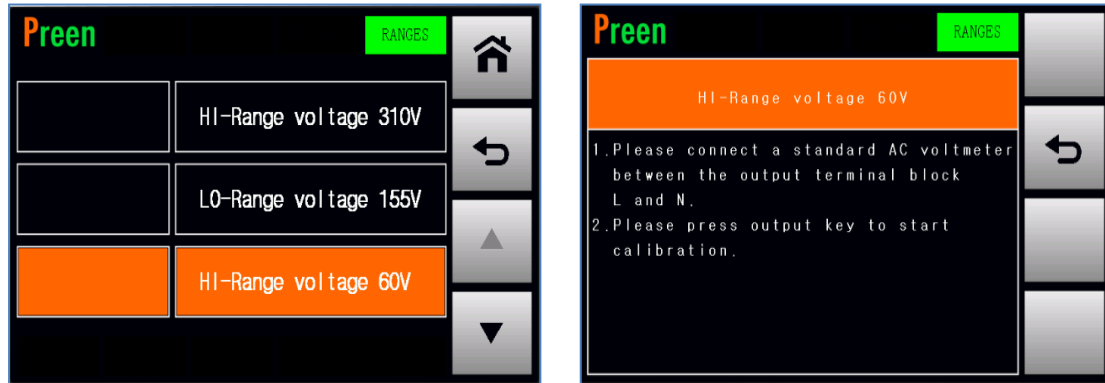

Figure 4.9 Enter into the page which calibrates the HI-Range voltage 60V
1. Press the item HI-Range voltage 60V repeatedly to enter into the page which calibrates the HI-Range voltage 60V (refer to Figure 4.9).